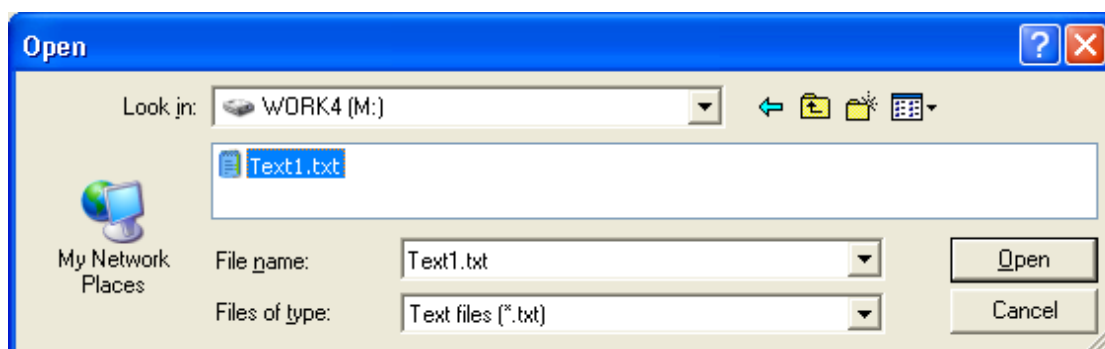

Fig. 2.15 Interface of inserting txt. File
**Insert Text File:** This function enables the user to insert the txt. File directly without inputting any message again to the editing area. Sigma Editor will paste the txt. File directly to the editing area once the file is chosen. This function accelerates the programming speed and reduces the inconvenience during programming. As shown in Fig 2.15, click Open to choose the txt. File that we want.